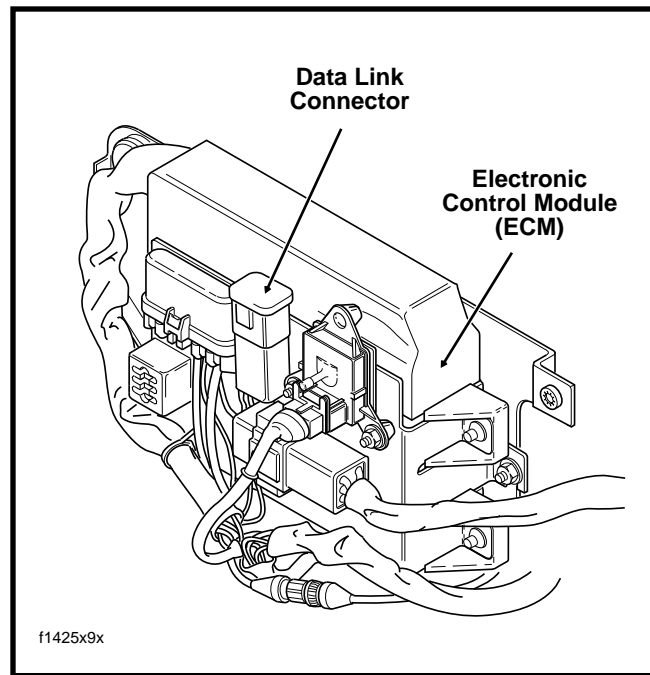

Figure 2. Electrical Bracket Assembly
3. Locate Data Link connector (pin side of 4-place Deutsch) on the electrical bracket. See Figure 2. Push connector up to disengage small end of slot on attachment clip from T-stud.